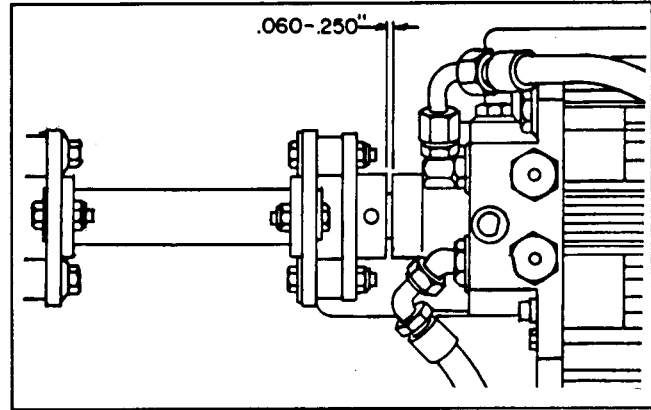

Figure 5
**NOTE:** After installing the drive coupling assembly, the rubber coupling must not be deformed more than .250 in (6mm) either direction. If the coupling is deformed, correct the condition by loosening the transmission pump hub setscrews and changing the position of the pump hub. The end of the pump hub must be positioned .060 - .250 in. (1.5 - 6mm) away from the transmission face (Fig. 5). Tighten the setscrews on the transmission hub to a torque of 12 ft-lb (1.7 KgM).